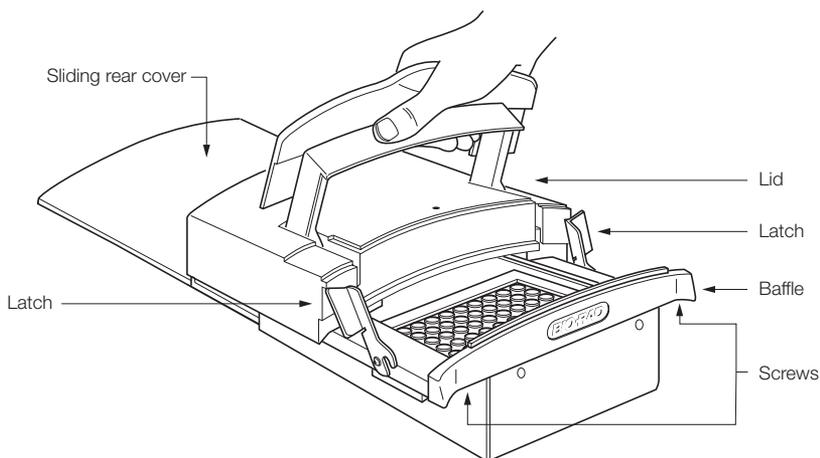

Fig. 2. Removing the lid from the reaction module (front view).
2. On the front of the reaction module (Figure 2), remove the baffle by loosening the two front screws with a Phillips screwdriver (Figure 2). It is not necessary to remove the screws. Push up on the baffle to remove it.
5. Slide the optical lid open, exposing the reaction block; replace the front baffle and push down firmly to seat it, then tighten the screws (Figure 2). Check that the lid closes properly.
1. Push the sliding rear cover on top of the chassis as far back as it will go (Figure 2).
2. Push the green latches on the reaction module against the open lid (Figure 2).